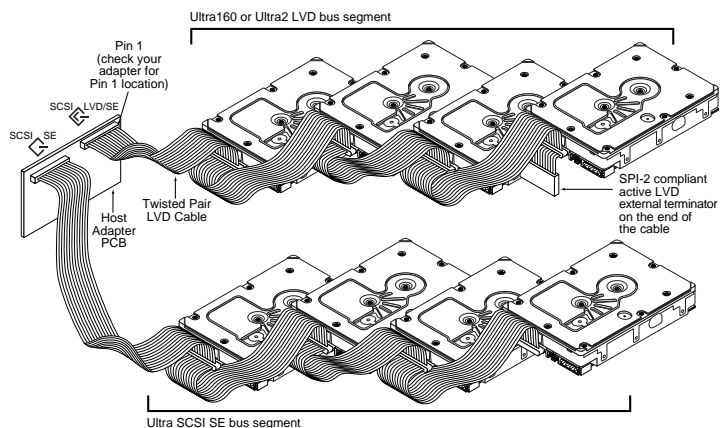

Figure 3. Cable connections and external termination
- Connect the DC power cable to the drive. See Figure 3.